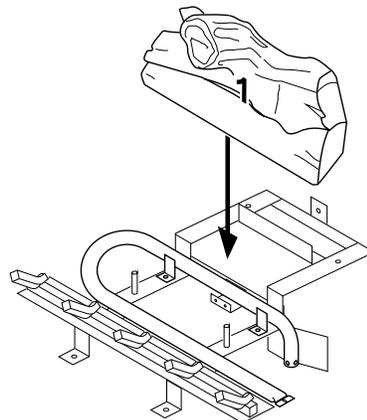

Figure 51 - Installing Log No. 1
1. Place log #1 (back log) on top of grate. Make sure the notches in the bottom of the log fit over the grate (see Figure 51).